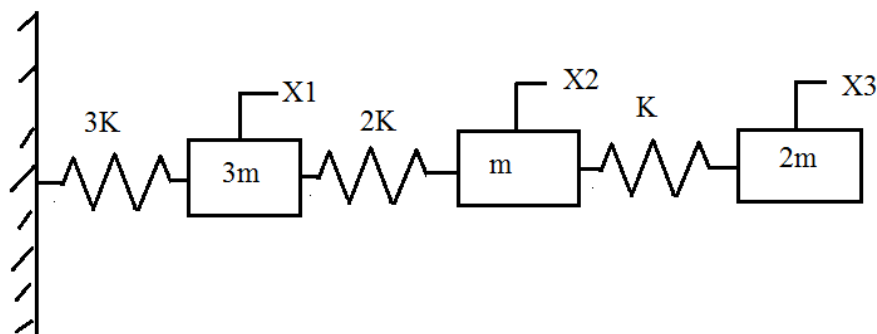

Fig.1
5. Using matrix iteration method determine the first two natural frequencies and the mode shapes of the system shown in Fig. 1. (15)